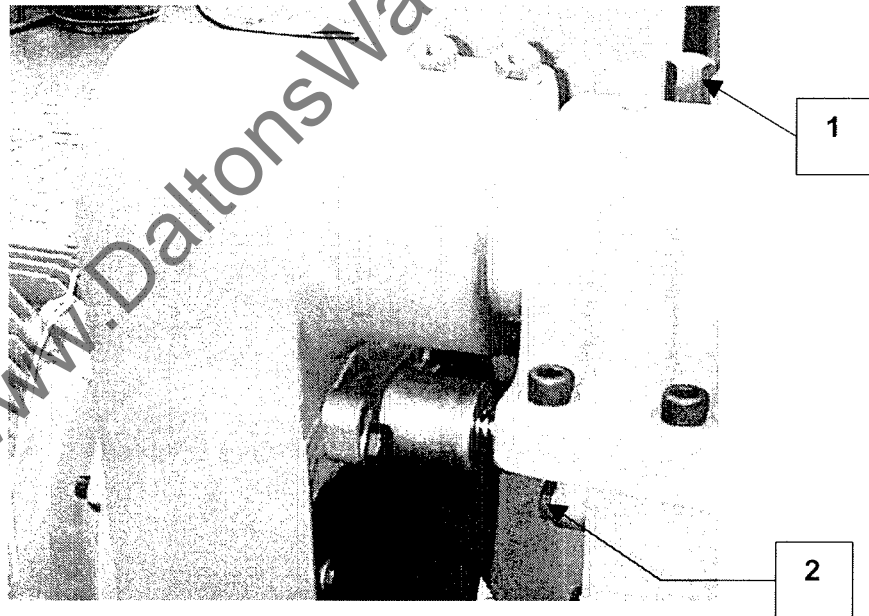

Figure 7.3.7
- 5 Slot the 'C' washer (2) over the draw bolt (1) and tighten the draw bolt.
7.3.7 Replace Bottom / Top Head Spindle (Figure 7.3.7)